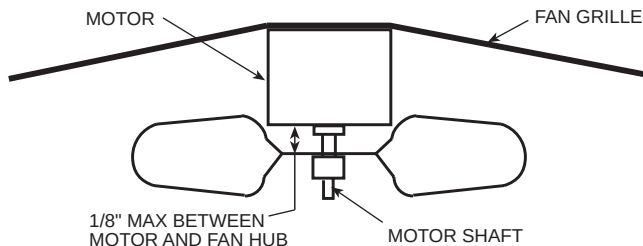

Fig. 12 — Fan Blade Clearance
- Ensure fan hub is $\frac{1}{8}$ in. max from motor housing (see Fig. 12).